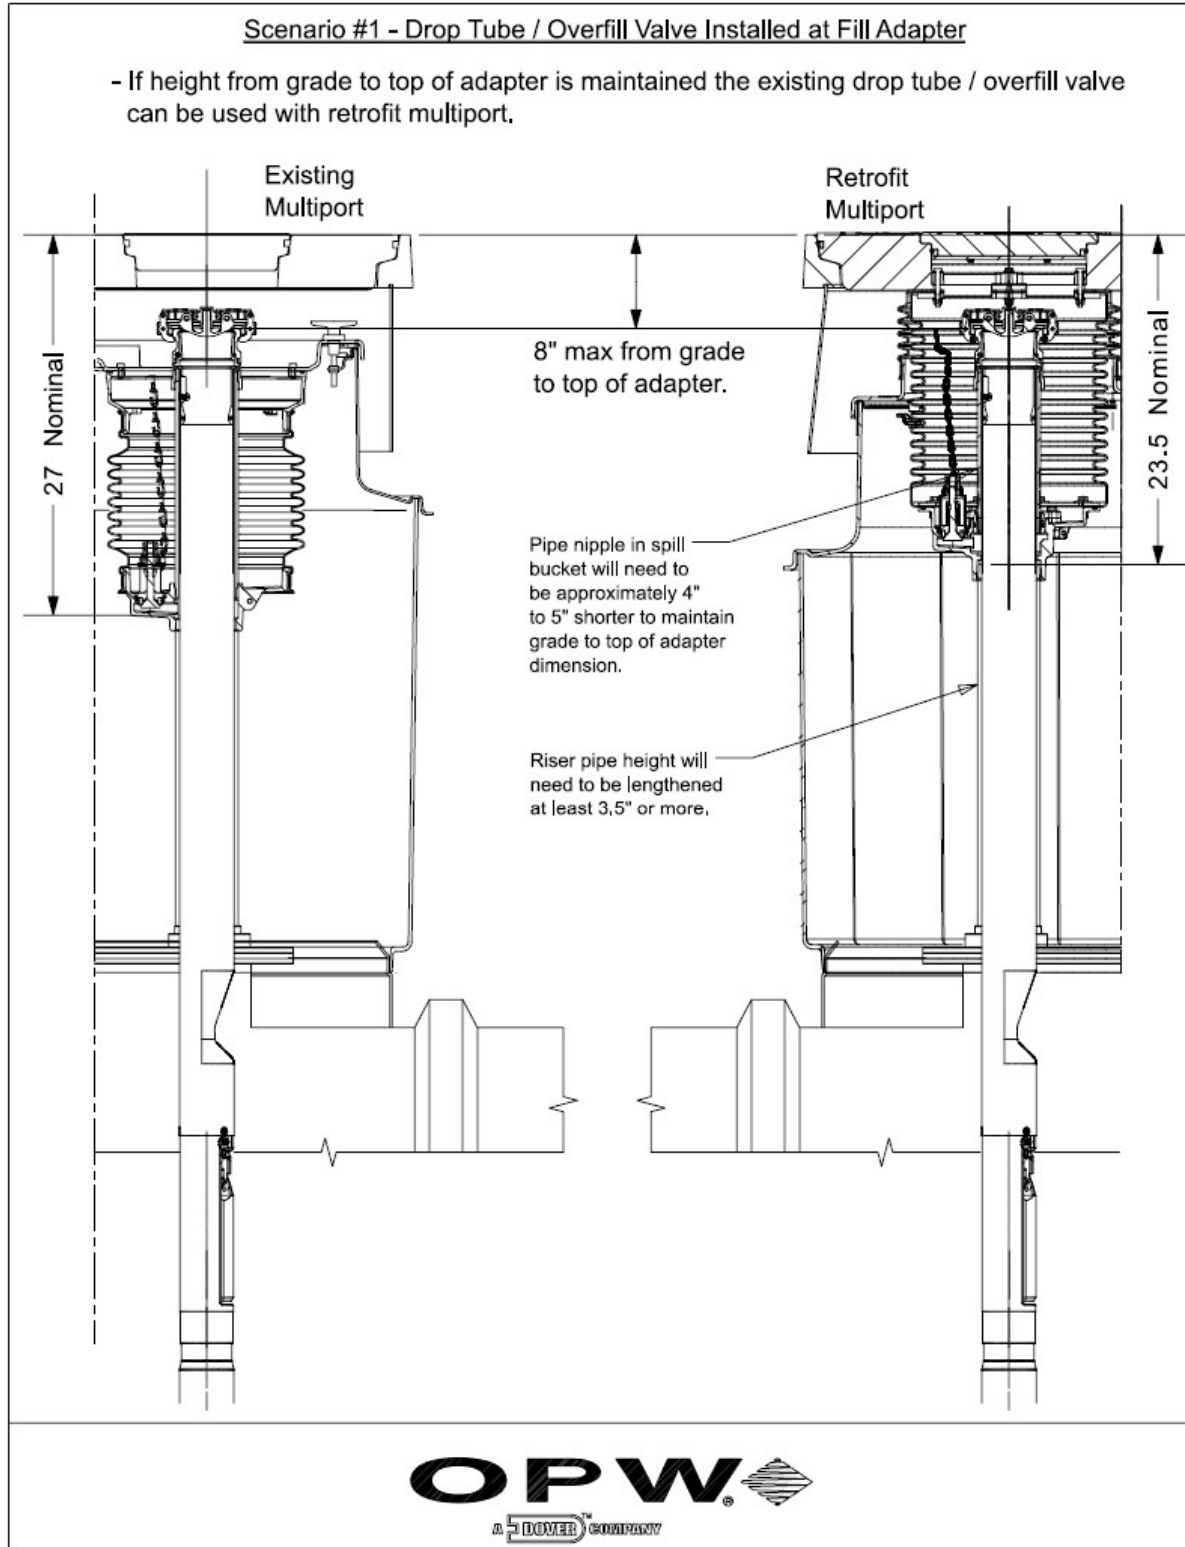

Figure 32
53. If desired, the existing drop tube / overfill valve can potentially be used with the retrofit installation. Determine mounting location of current drop tube / overfill valve (See Figure 32 and 33 for the two most common scenarios).
Scenario #1 (Figure 32) - If drop tube / overfill valve is mounted at the adapter (the drop tube / overfill valve can be used as is if the grade to adapter height is maintained. Measure existing grade to adapter height and maintain with new configuration. Confirm dimensions meet requirements in the drop tube / overfill valve instructions when reinstalling.